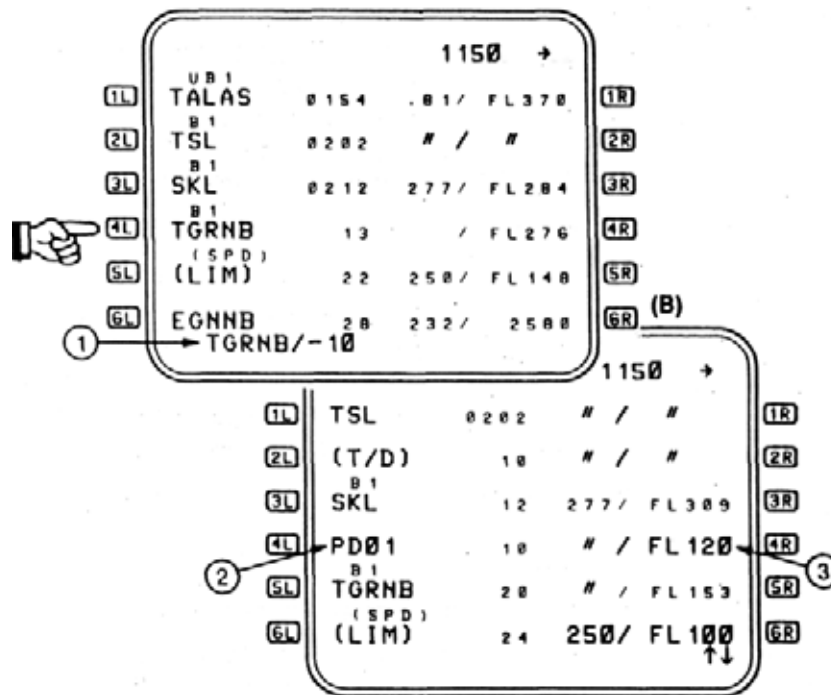

Figure 2-122
1. On either F-PLN page - write TGRNB/-10 in the SP (Display (A) **1**), Figure 2-122).
2. Press LSK **4L** - the crossing restriction is "northofTGRNB",so must occur before the waypoint identifying the crossing point. When entering ATO waypoints, press the LSK adjacent to the waypoint to which the crossing restriction or constraint is referenced. The FMC automatically places the ATO before, — sign, or after, + sign, the referenced waypoint, depending on which symbol was used to define it. In this case, TGRNB/-10, occurs before TGRNB, exactly where we want it. (Display (A)). See APPENDIX B, page B-7, for proper formats.
3. Write the altitude constraint, FL120, in the SP as, /120, and press LSK **4L**. (Display (B), (3)).
In (Display (B), Figure 2-122), the ATO waypoint is identified by the FMC as PD01, the first of 20 possible pilot defined waypoints. Notice the ATO occurs 10 NM before TGRNB, and the altitude constraint, FL120, is displayed in large font, to indicate it is a pilot entry and does not come from the FMC. If the ATC clearance also included a speed restriction at TGRNB, that could also be placed in data line **4R**, e.g. - 210/FL120 See 3.1.3.2.6 - WAYPOINT INSERTION/F-PLN A and B pages.